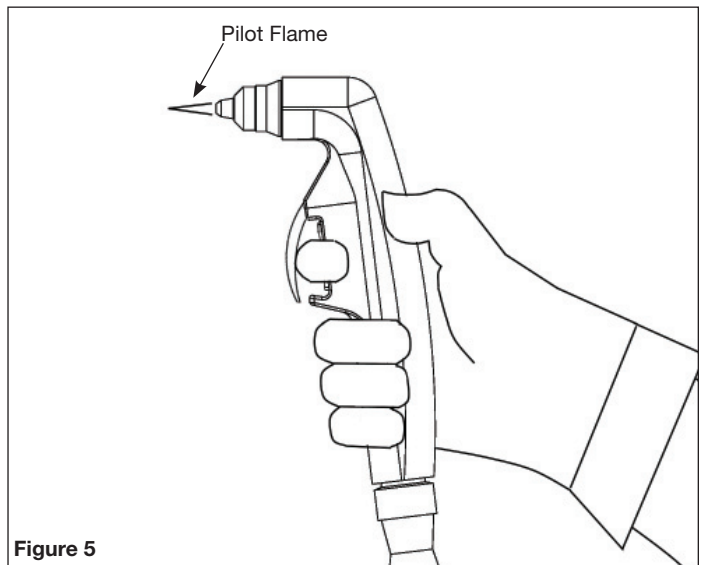

Figure 5
- ◆ **IMPORTANT:** Do not pull trigger with the torch held away from the workpiece. Operating the flame in open air will reduce the life of the tip and electrode. See Figure 5.